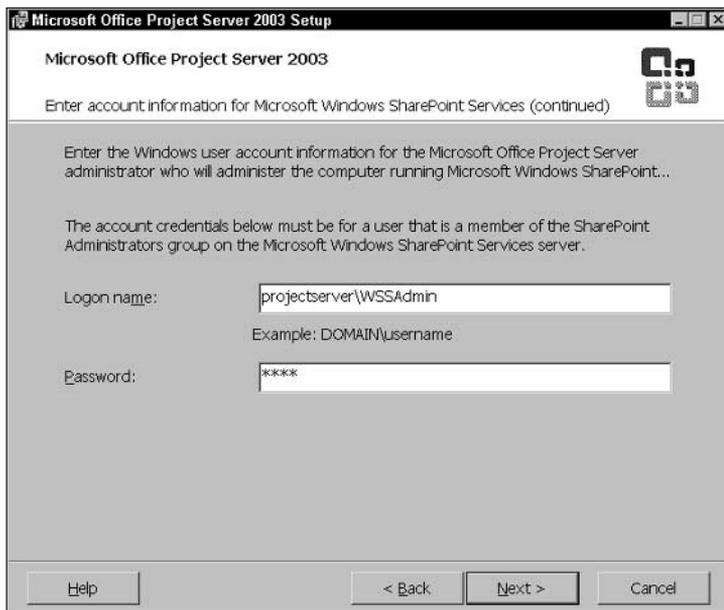

Figure 18-32: Supply account information for the SharePoint administrator.
16. If you chose to enter information in Step 15, you see the page that's shown in Figure 18-32. In the Logon name box, type in **servername\username**, where **servername** is the name of the server on which you installed WSS and **username** is the Windows account information for the SharePoint administrator that you created earlier in this chapter—I called mine WSSAdmin and suggested that you write down the necessary information. In the Password box, type the password that you assigned to the SharePoint administrator. Click Next.